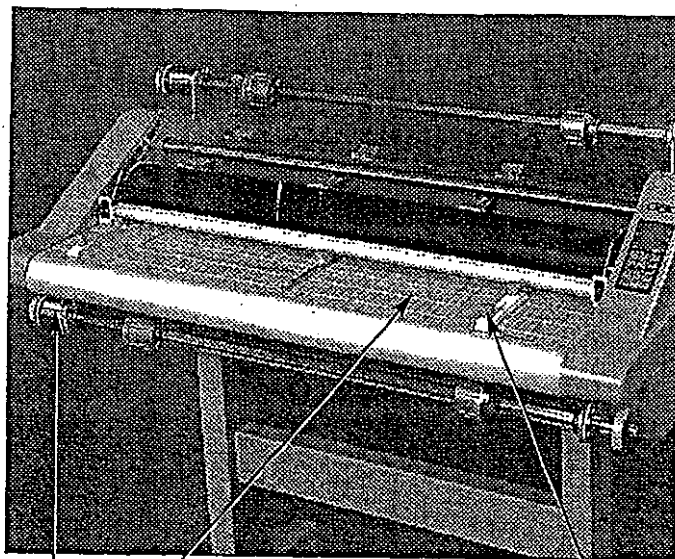

Fig. 3
D. FEED TABLE: The Feed Table, Figure 3, is used to position items for lamination. The laminator will operate only when the Feed Table and Feed Table Latch are properly installed. The table cannot be removed without retracting the latch to the right while lifting the table upwards and away from the laminator.
E. TABLE INTERLOCK LATCH: Used to lock the Feed Table into position and activate an interlock switch. The interlock latch is located on the left underside of the Feed Table, (Figure 3). The laminator will not operate when the table is removed and/or the interlock latch is retracted.
F. FEED GUIDES: The Feed Guides, Figure 3, permit alignment of the item(s) to be laminated. To position the adjustable guides, loosen the knob on the top of the guide(s), slide them/it to the desired position and tighten the knobs to secure the Feed Guide(s) in place. The Feed Guides are used to keep longer items straight. The Center Feed Guide may also be used to feed smaller items side by side by positioning the guide in the center of the Feed Table and placing smaller items against each side of the guide as they are being introduced into the nip rollers.
Refer to Figure 3 and follow the procedures to remove the feed table: